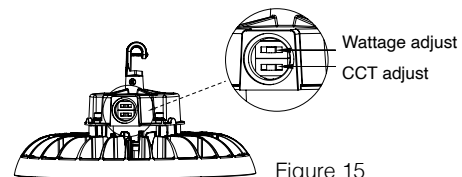

Figure 15
- 1). Remove the stopper, pull the DIP switches to adjust the wattage and CCT, and then insert the stopper. (figure 15)